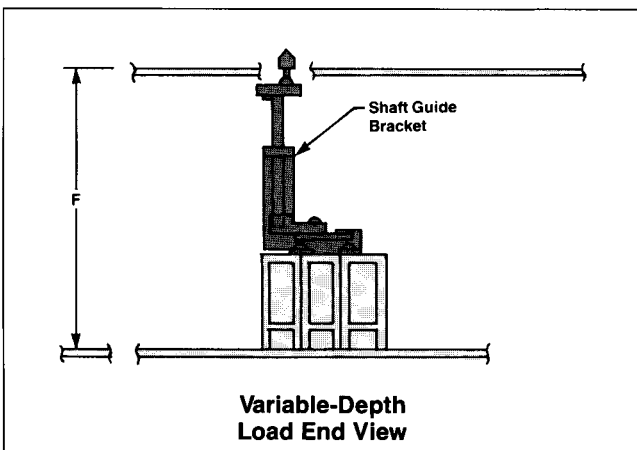

Figure 3
- D. If installing variable depth kit, measure distance **F** from breaker mounting surface to outside of cover (Figure 3). If distance **F** is less than 8 in., remove shaft guide bracket.